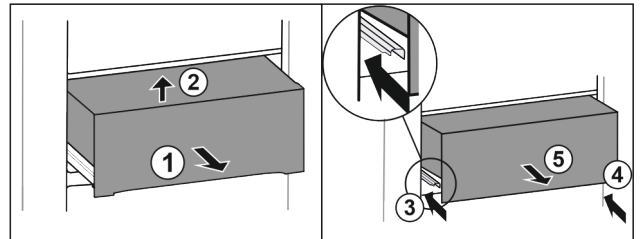

Fig. 28*
- ▶ Pull out the drawer halfway Fig. 28 (1).*
- ▶ Lift at the front Fig. 28 (2).*
- ▶ Slide in left rail Fig. 28 (3).*
- ▶ Slide in right rail Fig. 28 (4).*
- ▶ Remove the drawer to the front Fig. 28 (5).*